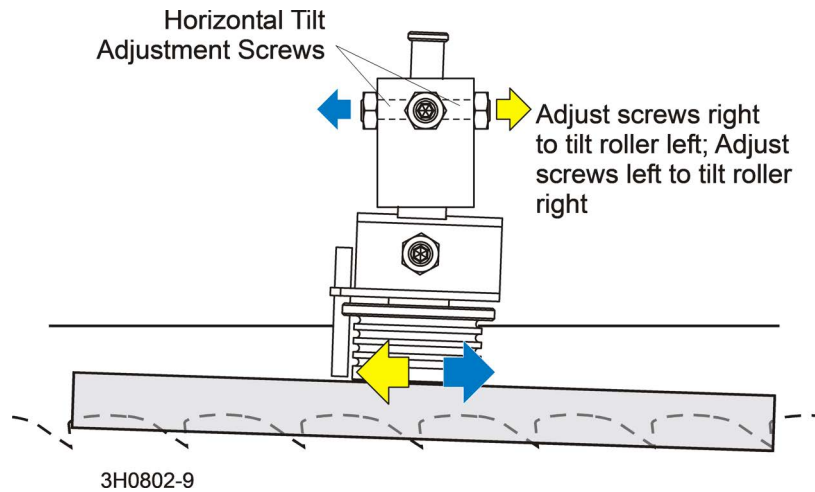

FIG. 5-7
- Loosen the jam nuts on the horizontal tilt adjustment screws. See FIG. 5-7.